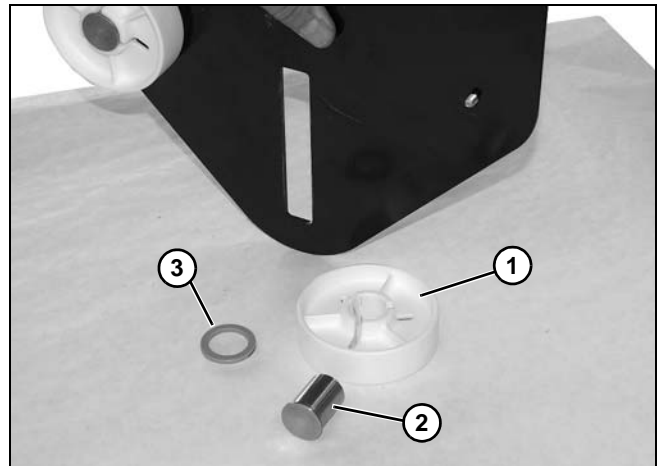

Figure 127
9. On opposite side of socket head screw just removed, remove idler puck (**Figure 127, item 1**), idler stub (**Figure 127, item 1**), and spacer (**Figure 127, item 2**).